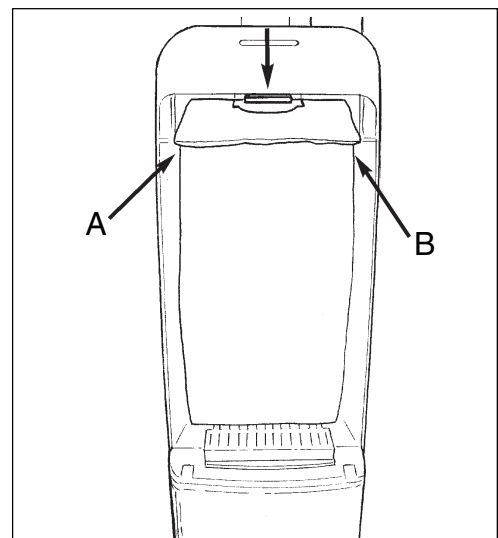

Figure 19
3. Grasp cardboard inlet on both sides of the bag (see points A and B on figure 19) and slightly rotate and pull bag out.
- e. Make sure the cardboard is pushed all the way on the bag adapter (figure 19) or the door will not latch.